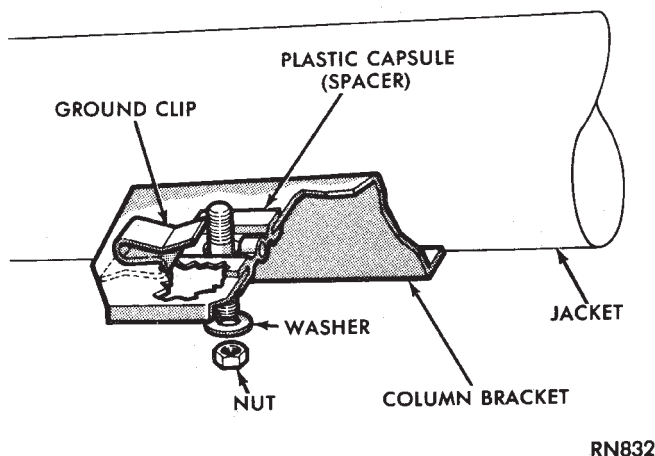

Fig. 8 Ground Clip & Spacer Installation
(2) Ensure the ground clip is on the left spacer slot (Fig. 8).